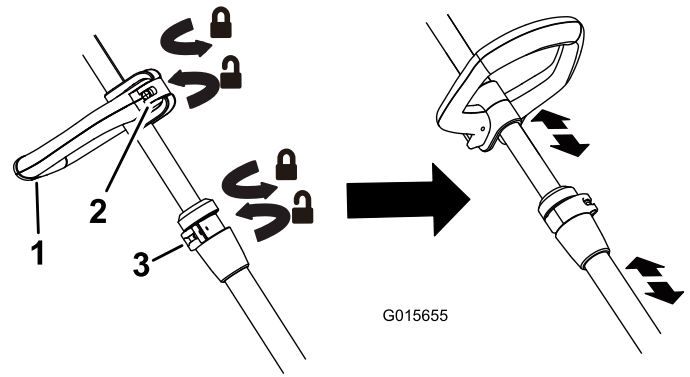

Figure 5
- To adjust handle height, flip the auxiliary handle latch, slide it up or down to the desired height, then secure it in place by closing the latch (Figure 5).
- To adjust the trimmer height, open the height adjustment latch, then slide the shaft up or down to desired height, securing it in place with the latch (Figure 5).